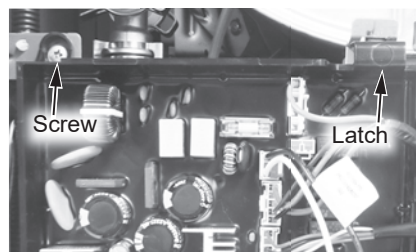

Figure 85 - Control board location
**6** Locate the screw securing the control board panel as shown in Figure 85. Use a Phillips screwdriver to remove the screw and place it aside in a safe place for reinstallation.